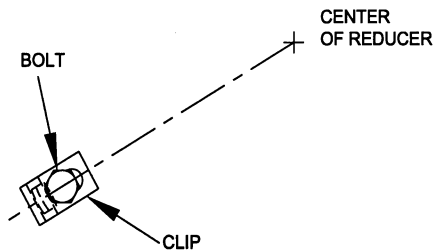

Figure 6.7.1b Location of Shroud Clips
- Align shroud clip with center of reducer (reference Figure 6.7.1b) and tighten bolts to torque requirements of Table 2, page 20.